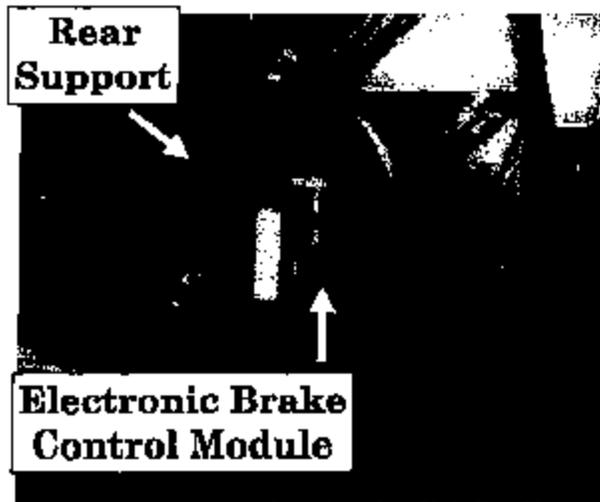

Figure 1: Electronic Brake Control Module (EBCM)
3. Disconnect the two wiring connectors from the Electronic Brake Control Module (EBCM) located underneath the cab at the rear support. (Figure 1)